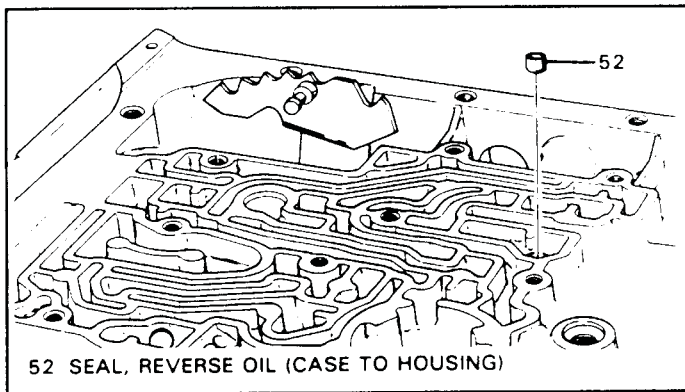

Figure 113A
16. Install the Lo/Reverse clutch oil seal into the case as shown in Figure 113A, with rubber seal facing the support.